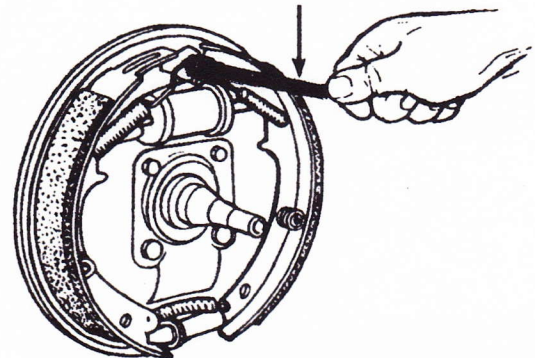

FIGURE 39-30 Using a spring removal tool to remove the return springs.
3. Remove the brake shoe return springs. Use a brake spring removal and installation tool to unhook the springs from the anchor pin or anchor plate (Figure 39-30). In some cases, the return springs might not be attached directly to the anchor pin. One spring might be hooked over the adjusting mechanism link, which is in turn installed over the anchor pin. Or, both springs can be hooked onto an anchor plate. Regardless of how springs are attached, carefully note the location, position, and color of all springs before removing any so they can be reinstalled properly.